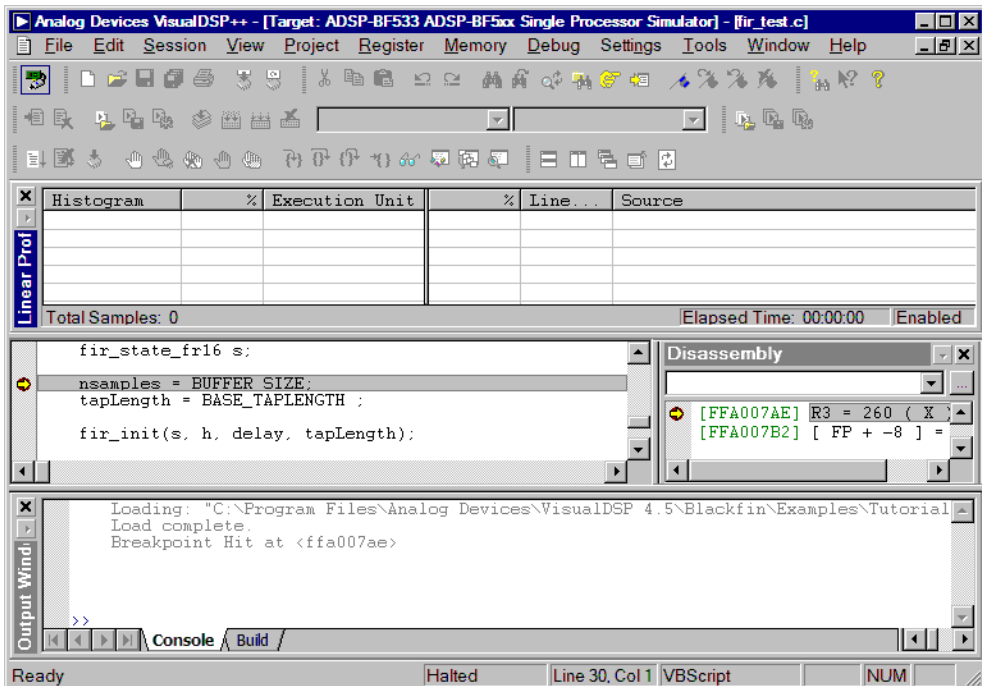

Figure 2-34. Linear Profiling Window (Empty)
If VisualDSP++ does not open an editor window (shown in Figure 2-34), right-click in the **Disassembly** window and select **View Source**.
- Click in the profiling window's title bar and then drag and drop the window to the top of the VisualDSP++ main window, as shown in Figure 2-34. You will have a better view of the profile data.